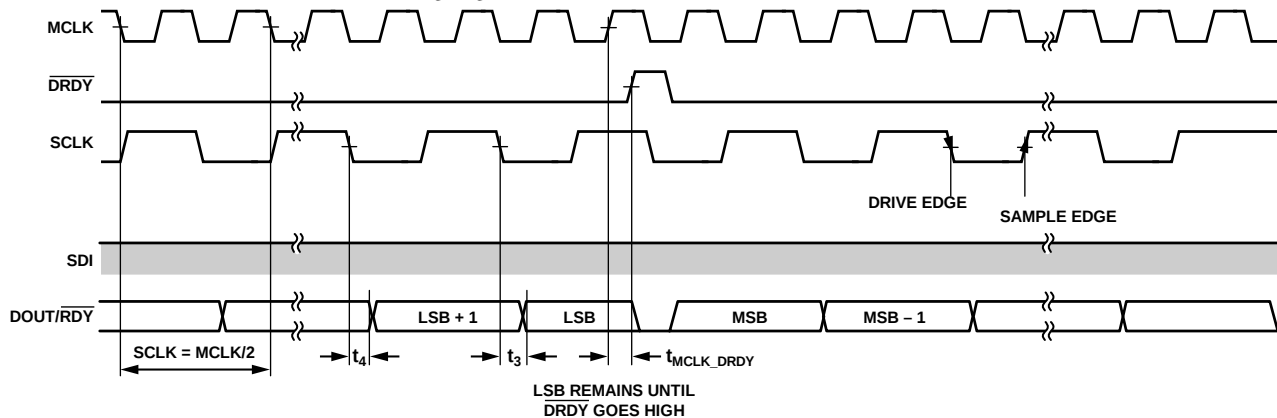

Figure 109. Recommended Interface for Reading Conversions, SPI Control, Continuous Readback Mode
DSPs and microcontroller units (MCUs). To achieve maximum performance, the recommended interface configuration for reading conversion results is shown in Figure 109. This recommended implementation uses a synchronous SCLK to MCLK relationship.
Figure 109 shows how the recommended interface operates. The data read back spans the entire length of the $\overline{DRDY}$ period
5. Generate SCLK based on the $\overline{\text{DRDY}}$ or $\overline{\text{RDY}}$ timing. SCLK is high when the $\overline{\text{DRDY}}$ signal goes high and transitions on the MCLK falling edges (see Figure 109) to ensure that the LSB can be read correctly as the DOUT/ $\overline{\text{RDY}}$ output is reset on the $\overline{\text{DRDY}}$ rising edge. However, SCLK rising occurs before this transition.
Because the full ODR period is for clocking data, the $\overline{\text{RDY}}$ signal no longer flags after each LSB outputs. This signal only flags if the ADAQ7768-1 is in continuous readback mode, or if the ADAQ7768-1 does not count 32 SCLKs within $1 \times t_{\text{MCLK}}$ before $\overline{\text{DRDY}}$, as is shown in Figure 109.